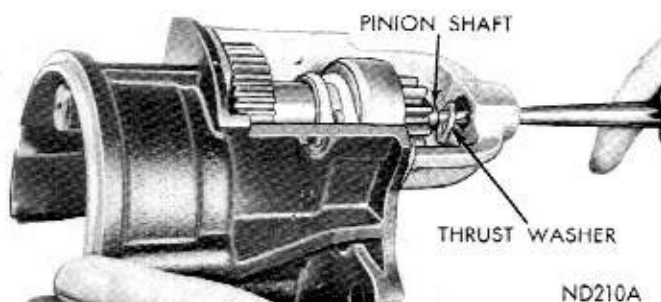

Fig. 8—Removing Pinion Shaft
(17) Push pinion shaft towards rear of housing (Fig. 8) and remove retainer ring and thrust washers, clutch and pinion assembly, with the two shift fork